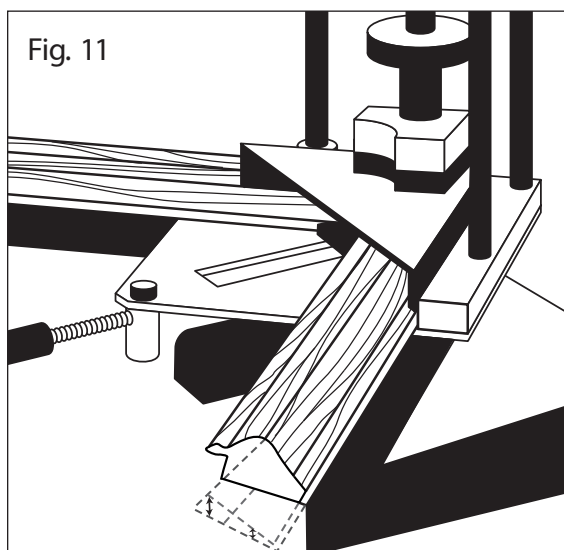

Fig. 11
4. Due to the many moulding profiles we have included a black moulding spacer. This is especially useful when the outside edge of moulding is considerably thinner than inside (rabbet) edge of moulding. This should help eliminate the joint from opening (Fig. 11)